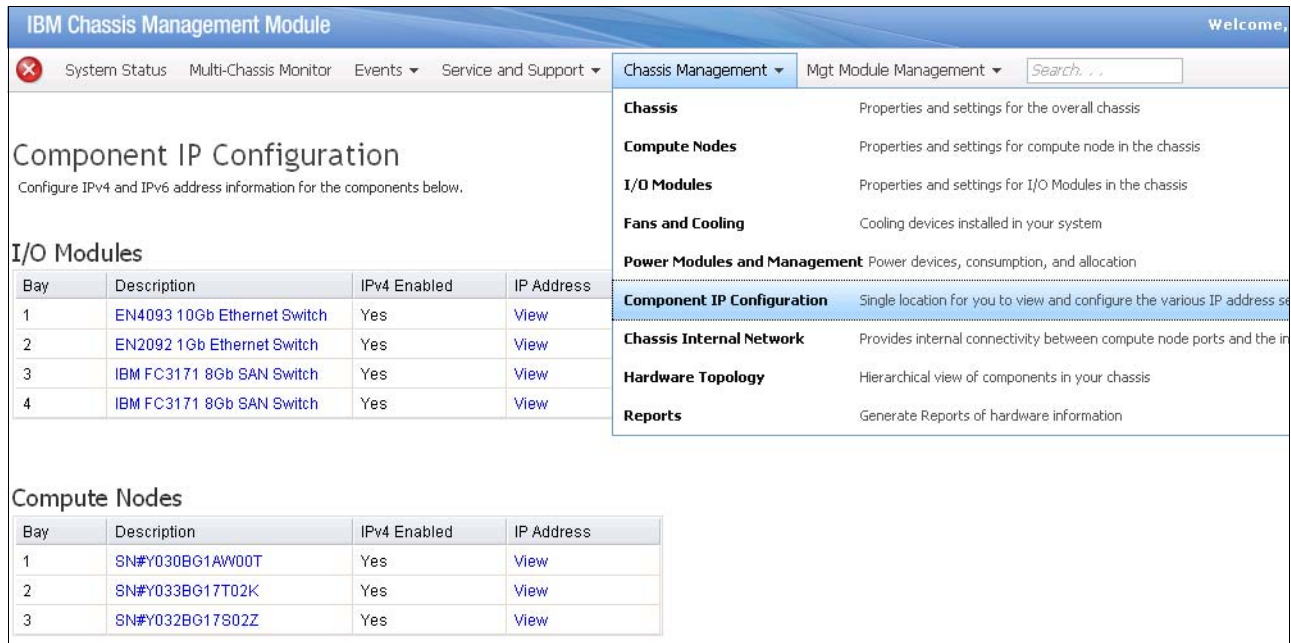

Figure 2-31 Component IP Configuration window
- From the menu bar, click **Chassis Management** → **Component IP configuration**. The Component IP Configuration window opens, as shown in Figure 2-31.